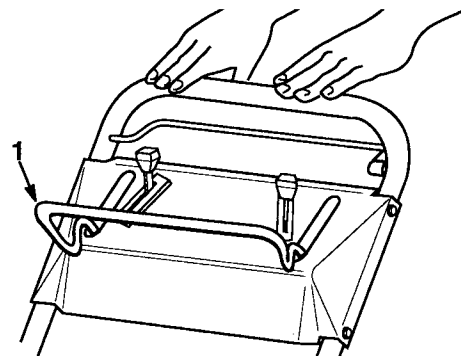

Figure 14
1. Release blade control bail (Fig. 14). Both the engine and blade will stop. See your dealer immediately if they do not.